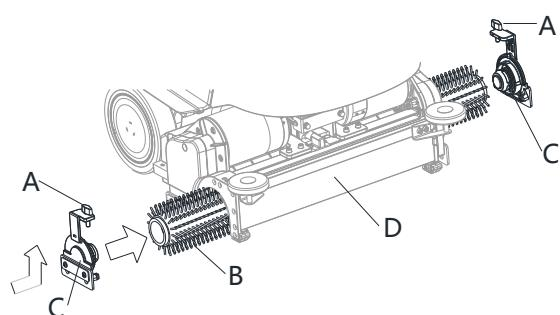

Figure 6
1. Make sure that the cylindrical deck (47) is lifted.
2. Turn off the machine with the start/stop button (62).
3. According to the kind of cleaning to be performed, install the brush (B, Fig. 6) and note the following:
- Release the screw (A) and remove the side hook (C) from brush deck (D).
- Install the brush (B) in the deck (D). Install the side hook (C) for brush and lock the screw(A).